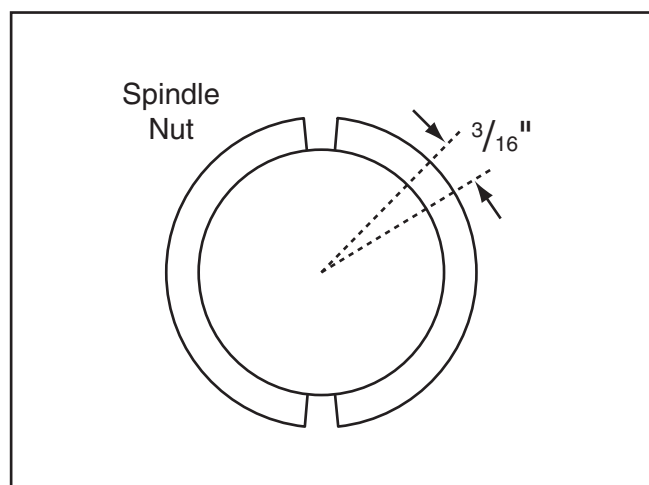

Figure 145. Rotating the spindle nut circumference $\frac{3}{16}$ " for the proper preload.
13. When you are confident that you have adjusted the spindle nut so that there is no spindle end play or preload, rotate the spindle nut outside circumference an additional $\frac{3}{16}$ " turn clockwise (see **Figure 145**) to introduce the proper amount of preload, which will register approximately 0.003" on the dial indicator.